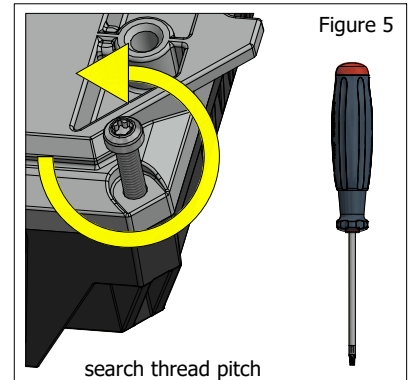

Figure 5
- 3.4.1 Use a screwdriver and turn the screw counter-clockwise till you feel the thread pitch (Figure 5)